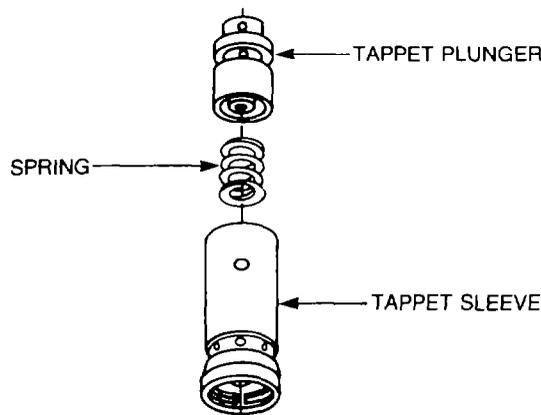

Figure 79 — Tappet Plunger and Spring — Removal
- n. Remove the screen retainer and the filter screen (items 16 and 15) from the injector adapter (item 12), then remove and discard the three O-rings (item 19).
- o. Remove the tappet plunger and compression spring from the tappet sleeve (see Fig. 79).